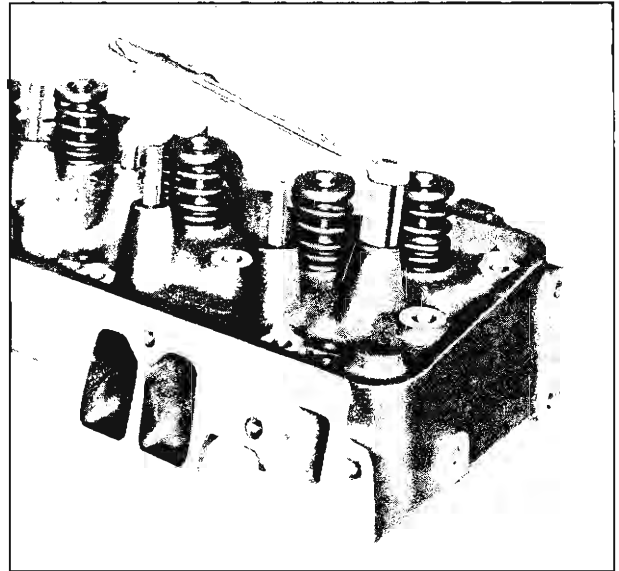

Fig. 123—Removing Valve Rocker Stud
1. Remove old stud by placing Tool J-5802 over the stud, installing nut and flat washer and removing stud by turning nut (fig. 123).